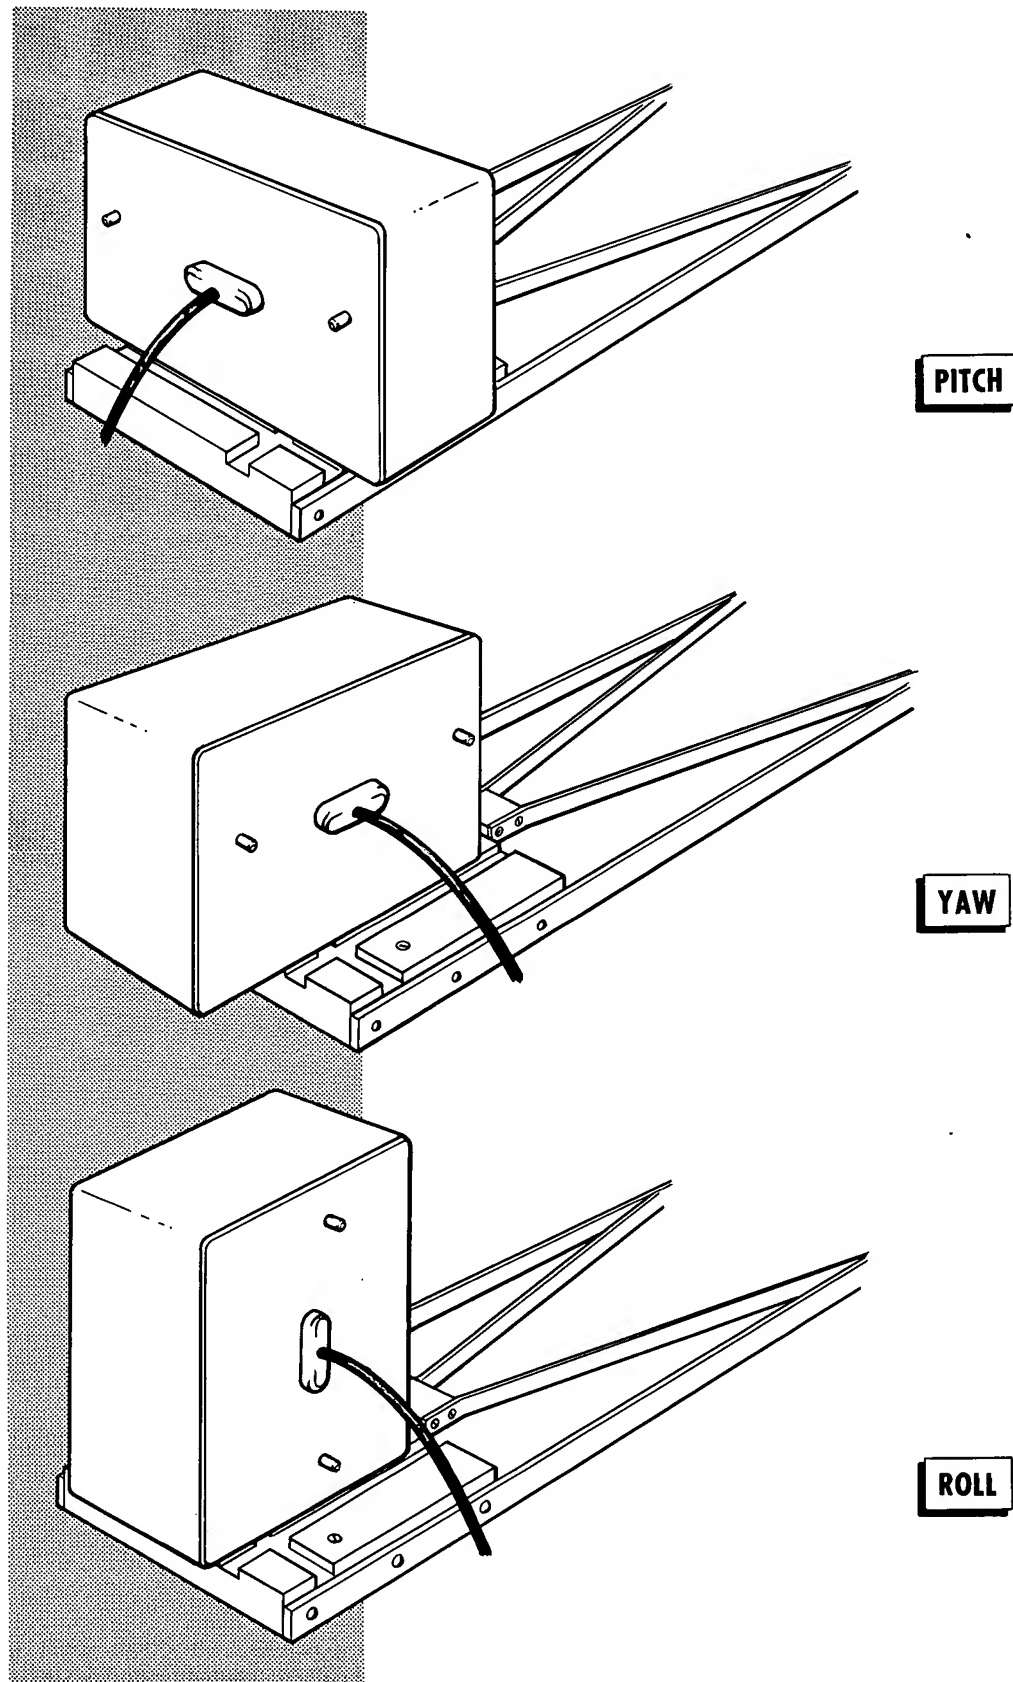

Figure 4-1. Vibration Detector Test Attitudes
- a. Place the vibration detector to be tested on the mounting platform in the desired test position, see figure 4-1.
##### 4-2. ROLL GYRO SENSITIVITY TEST (See figure 4-1.)
##### 4-3. PITCH GYRO SENSITIVITY TEST (See figure 4-1.)
### 4-4. YAW GYRO SENSITIVITY TEST (See figure 4-1.)